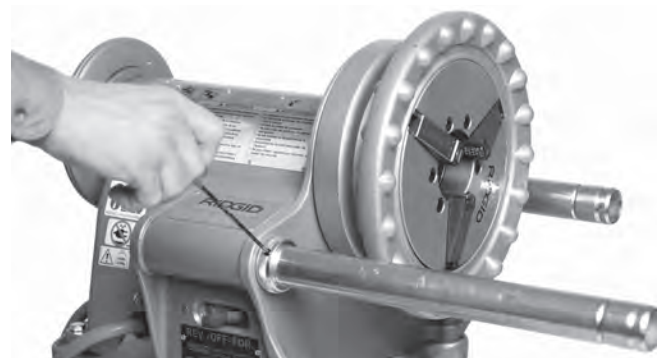

Figure 8 – Set Screw Location
1. Extend Support Bars fully forward. Push Retaining Rings back until they rest against the 300 Power Drive body. Tighten Set Screws in Retaining Rings with a 1/8" hex wrench (*Figure 8*).